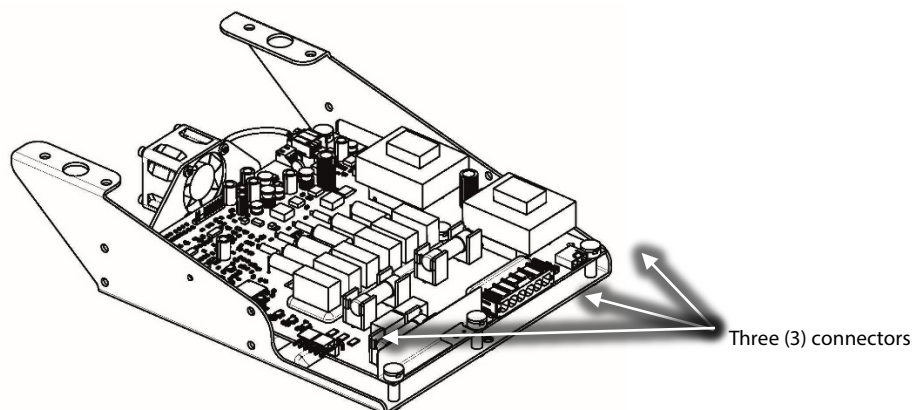

Figure 5 – Soft Start Harness Removal
- Unplug the cable connectors from the Soft Start board. Refer to Figure 5 (Soft Start Harness Removal).